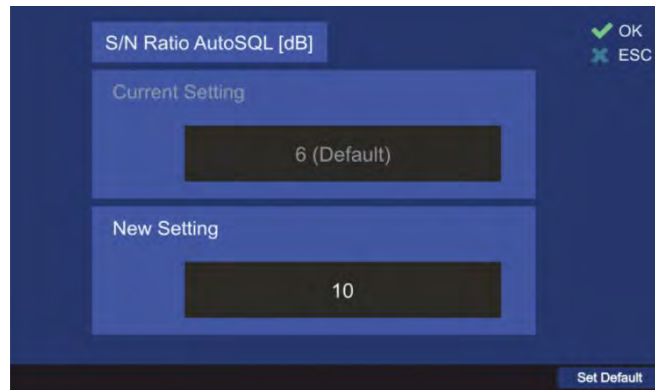

Fig. 128 S/N Ratio for auto squelch function
- By pressing the “OK” button or hotkey “Edit Value” (s. Fig. 106), while the setting “S/N Ratio AutoSQL [dB]” is marked, the following dialog is opened (s. Fig. 128).